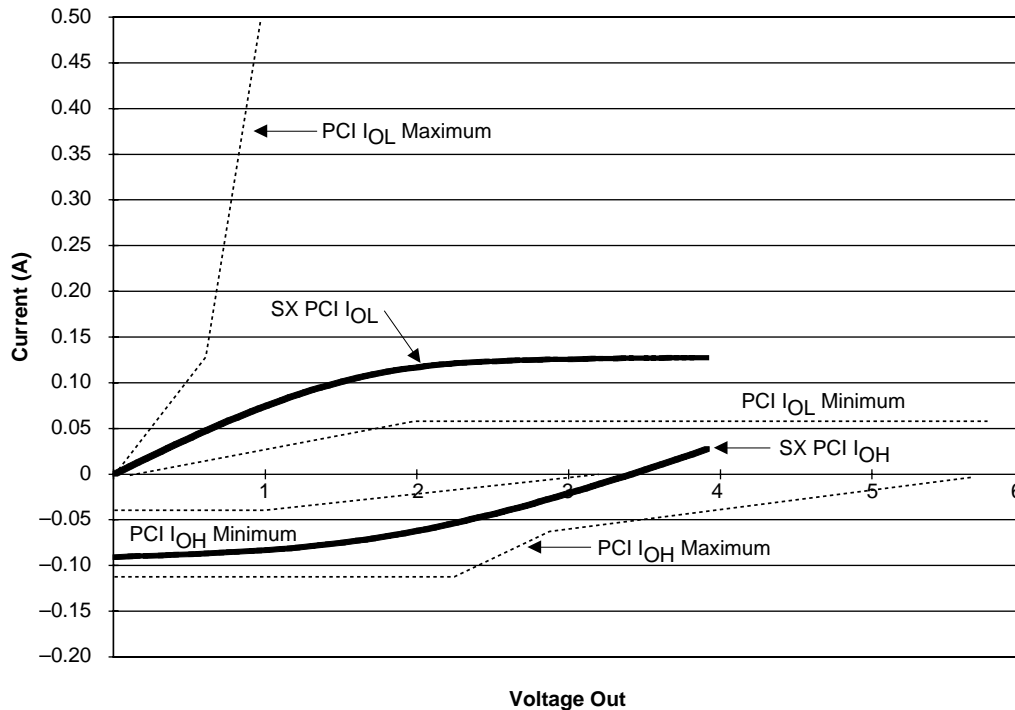

Figure 10 • 3.3V PCI Curve for SXA Family
1. Refer to the V/I curves in Figure 10. Switching current characteristics for REQ# and GNT# are permitted to be one half of that specified here; i.e., half size output drivers may be used on these signals. This specification does not apply to CLK and RST# which are system outputs. "Switching Current High" specification are not relevant to SERR#, INTA#, INTB#, INTC#, and INTD# which are open drain outputs.
2. Maximum current requirements must be met as drivers pull beyond the last step voltage. Equations defining these maximums (C and D) are provided with the respective diagrams in Figure 10. The equation defined maxima should be met by design. In order to facilitate component testing, a maximum current test point is defined for each side of the output driver.
Figure 10 shows the 3.3V PCI V/I curve and the minimum and maximum PCI drive characteristics of the SXA family.